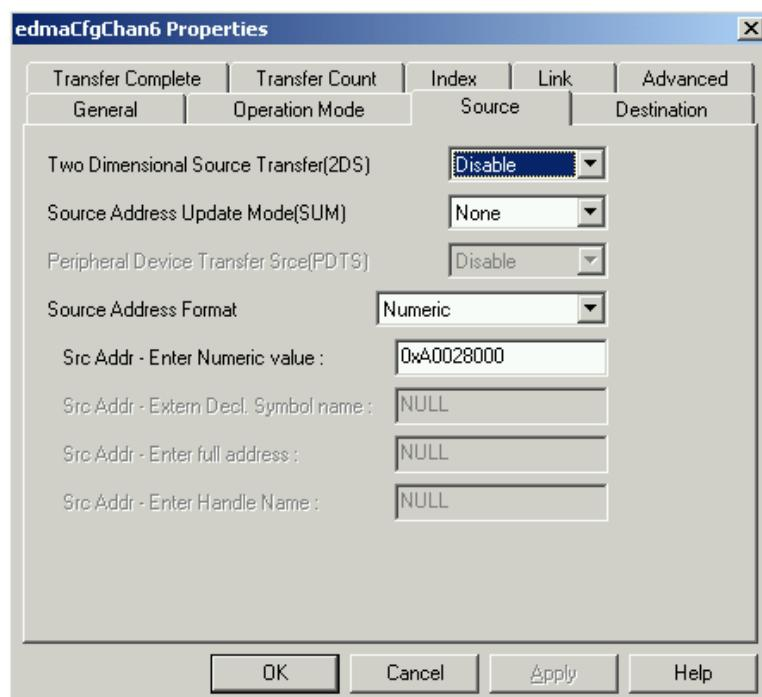

Figure 14. EDMA Chan6 Source Tab Options
12. In the Source tab, set the options shown in Figure 14. A read pulse is generated by the decoder when accessing 0xA0028000. So the source address is 0xA0028000. Disable two-dimensional source transfer and source address update.